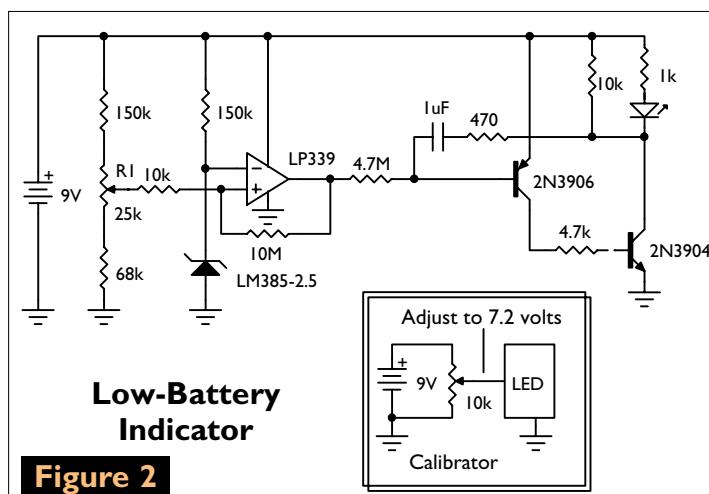

Figure 2
A. How about a blinking LED? The circuit in Figure 2 monitors the voltage of the nine-volt battery, and flashes the LED every two seconds when the voltage falls below 7.2 volts (the voltage most manufacturers consider the end of battery life). The circuit draws a mere 120